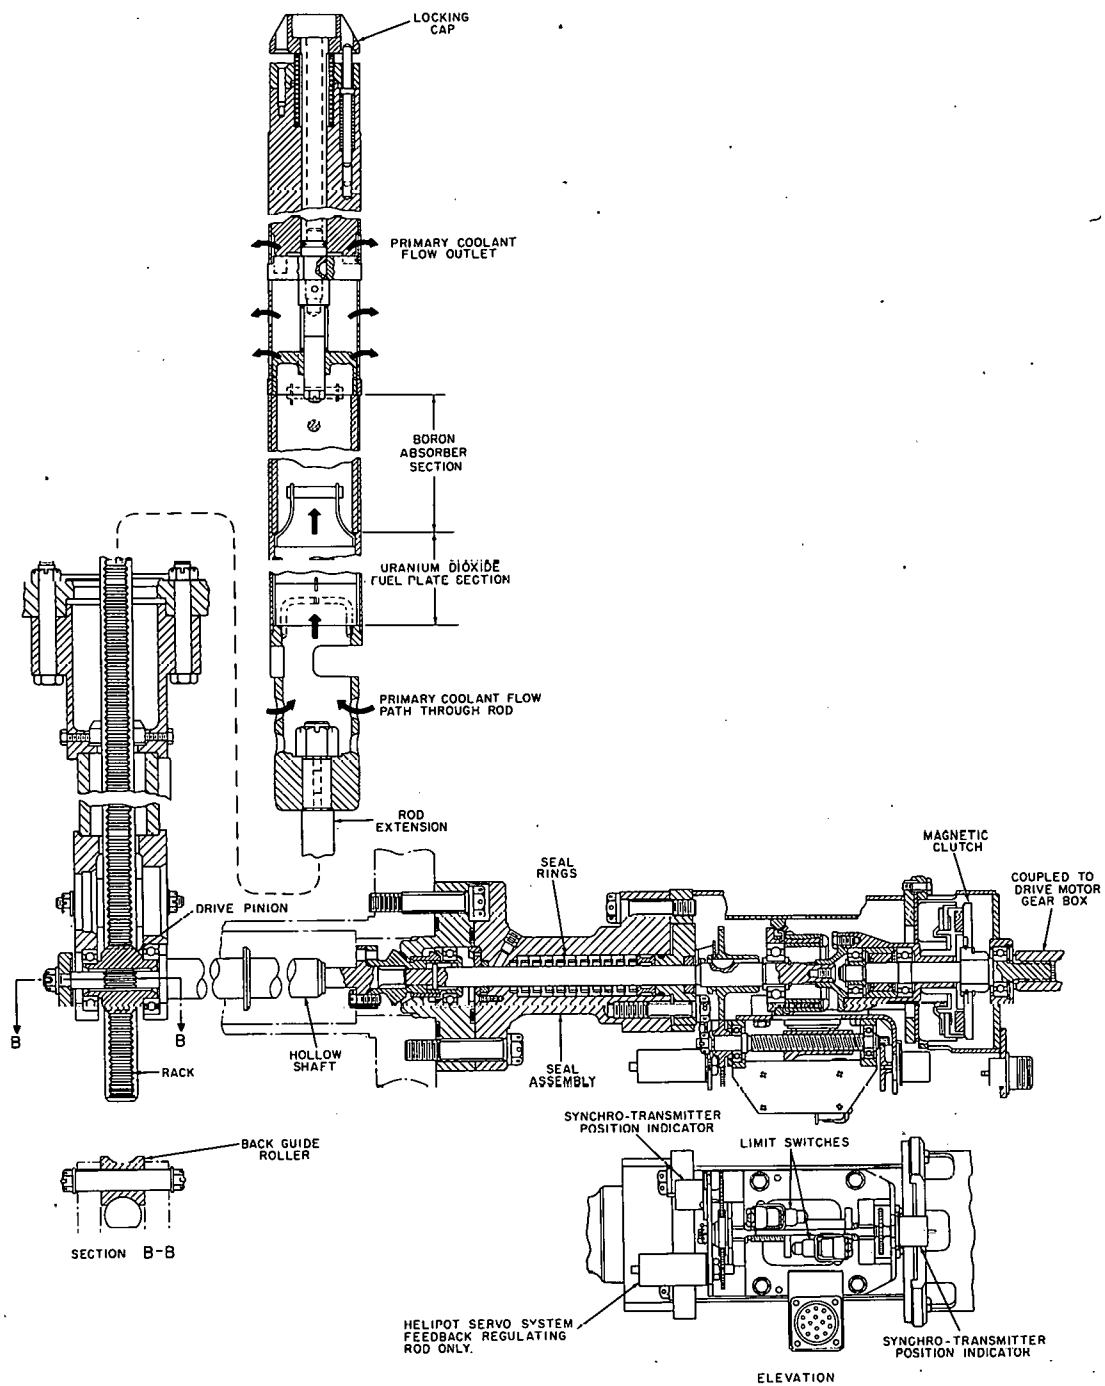

Figure 2-3. Control Rod and Drive Mechanism
**Control Rods (Figure 2-3).** Seven control rods, identical in construction, provide the means of controlling the reactor power level. Each rod consists of two sections mounted in a hollow, square member. The top sections of the rods contain boron enriched in the  $B_{10}$  isotope, imbedded in an electrolytic iron matrix. This material is an effective neutron absorber which, when positioned in the reactor core, controls the fission rate by absorbing excess neutrons. The lower section of each rod contains a fuel element having 16 fuel plates similar in construction to those used in the stationary fuel elements.
Control Rod Drive System and Seals (Figure 2-3). Inside the pressure vessel, each rod extension rack meshes with a drive pinion which is splined to a hollow shaft running to the outside wall of the vessel. A water seal, bolted to the outside face of the vessel, surrounds a shaft connecting the internal hollow shaft to the drive shaft of a reduction-gear motor. The connecting shaft is coupled to the motor drive shaft through a magnetic clutch. De-energizing the clutch coil releases the clutch and permits the rod to drop freely of its own weight to scram the reactor.